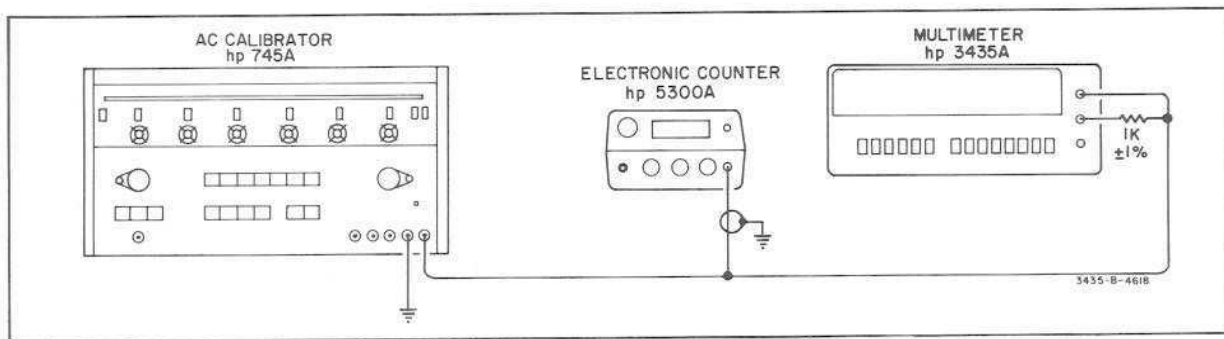

Figure 5-7. Effective Common-Mode Rejection Test.
- Connect an AC Calibrator as shown in Figure 5-7 and set the output amplitude to 100 V at 60 Hz ± 1 Hz. (Period = 16650 to 16683 μs.)